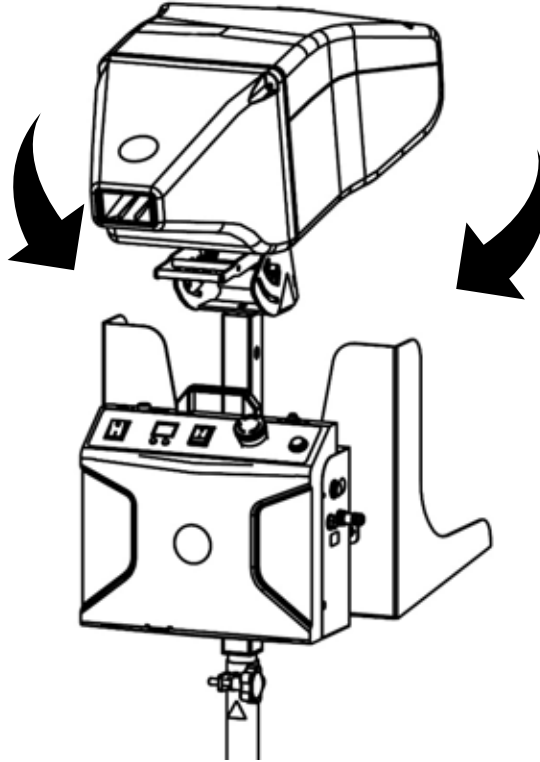

Figure 12 Output Chute Position
2. Rotate the **Dispenser** Head to the preferred Output Chute position (refer to Figure 12).